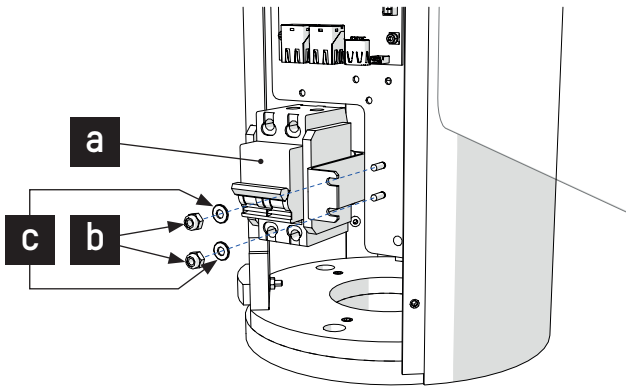

Fig. 39 - Coupling replacement (Circuit breaker assembly)
3. Remove the fasteners, nuts (**b**) and washers (**c**), from the circuit breaker assembly (**a**) to loosen the assembled parts (Fig. 39);